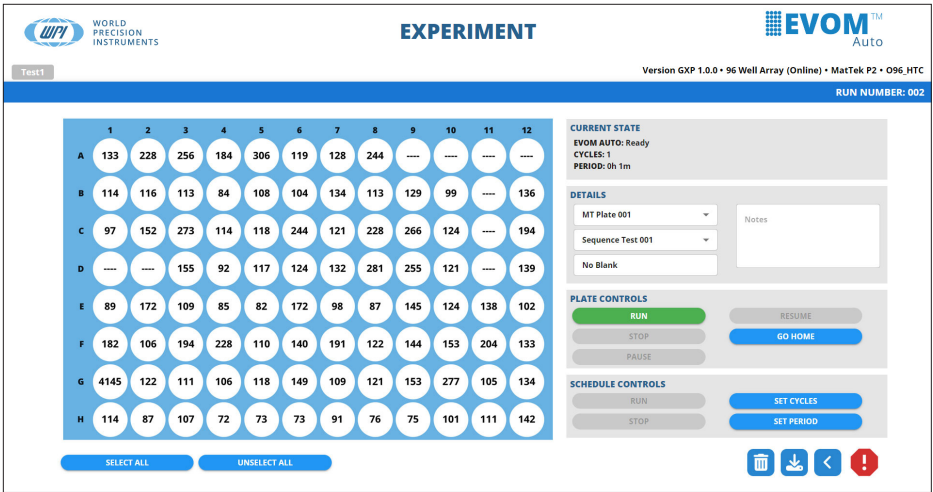

Fig. 81—The *Experiment* window appears. This example shows a 96-well plate option.
1. Select *Experiment* from the main menu. The *Experiment* window appears (Fig. 81).